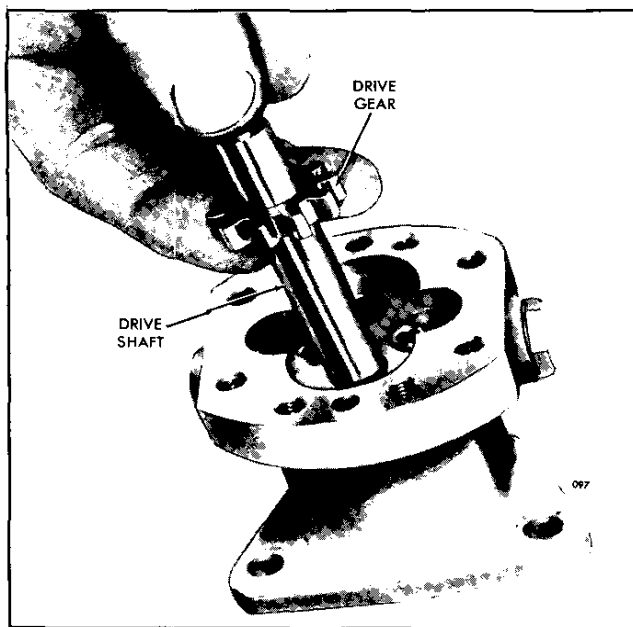

Fig. 9 - Installing Fuel Pump Drive Shaft and Gear Assembly
4. Lubricate the pump shaft and insert the square end of the shaft into the opening at the gear side of the pump body and through the oil seals (Fig. 9).